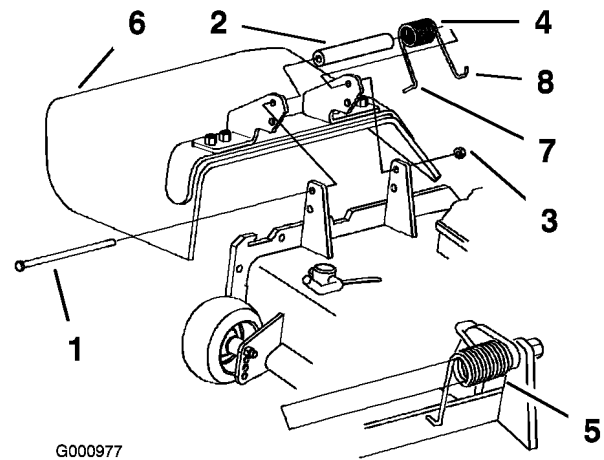

Figure 68
1. Remove the locknut, bolt, spring and spacer holding the deflector to the pivot brackets (Figure 68). Remove the damaged or worn grass deflector.
Note: Make sure the L end of the spring is installed behind the deck edge before installing the bolt as shown in Figure 68.
3. Install the bolt and nut. Place the **J** hook end of the spring around the grass deflector (Figure 68).